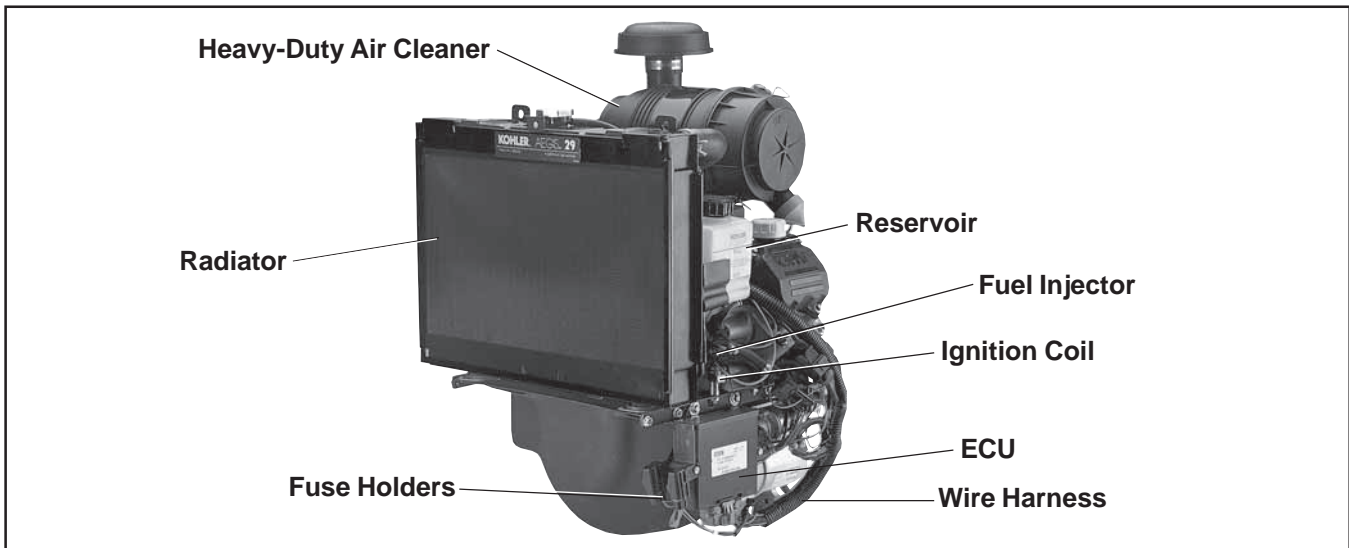

Figure 2. Typical Kohler Aegis® EFI Engine.
2. Be sure to use the proper oil for the temperature expected. See Figure 2 on page 4.